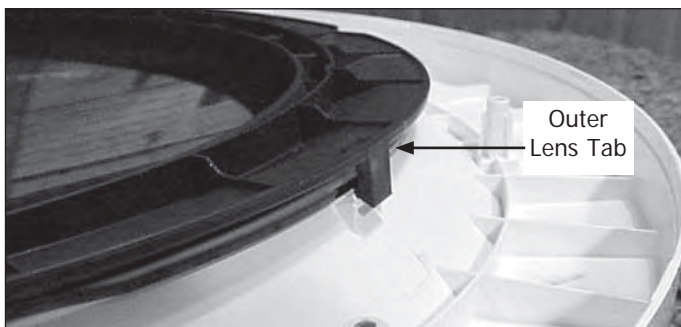

Figure 4-6.
5. The frame holding the outer lens to the outer liner is held in place by three tabs. Release the tabs and the frame will lift off. (See Figure 4-6)